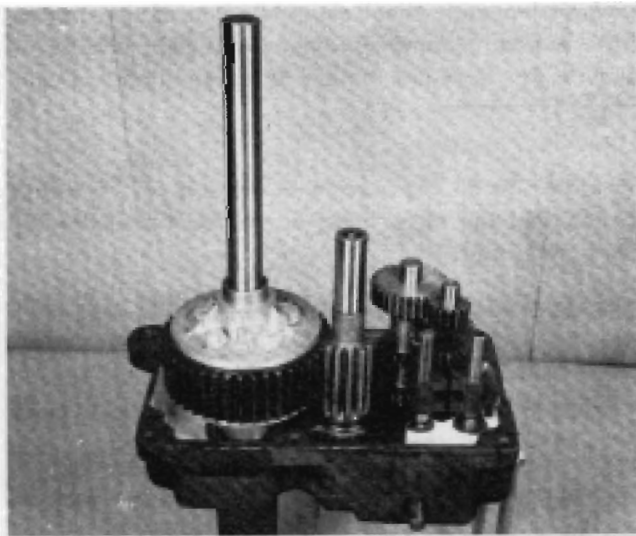

FIGURE 2
8. Remove the six (6) $\frac{3}{8}$ " x 16 bolts and nuts that retain the right hand and left hand cases.
9. Remove the left hand case leaving all gears intact, as shown in Figure 2.